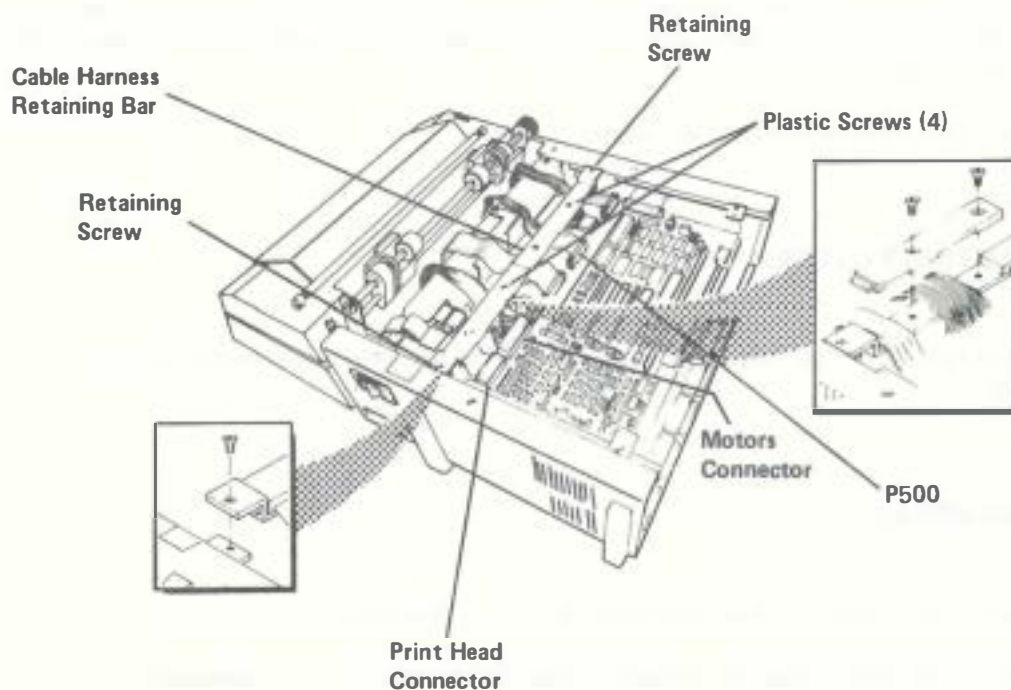

Figure 5-15. Processor Unit Cable Harness (Top View)
9. Disconnect the keyboard connector and the 5¼" diskette connector from the rear of the planar board. See Figure 5-15.
3. Remove the two retaining screws that hold the cable harness bar in place. See Figure 5-15.
4. Disconnect the motors connector and print head connector from the printer/plotter control board. Remove these connectors from the cable harness retaining bar by removing the plastic screws that hold that portion of the cable harness retaining bar in place. These connectors are part of the printer/plotter and are removed with it. See Figure 5-15.
6. Disconnect the printer/plotter control board AC connector. See Figure 5-15.
9. Carefully pull the control board AC cable out of the processor unit. See Figure 5-15.
4. Route the control board AC cable through the processor unit and connect it to the power supply. See Figure 5-15.
6. Replace the print head cable and motors cable on the cable harness retaining bar and install the top portion of the bar with the plastic screws. See Figure 5-15.
9. Position the cable harness assembly over its mounting holes and secure it with the two retaining screws. See Figure 5-15.